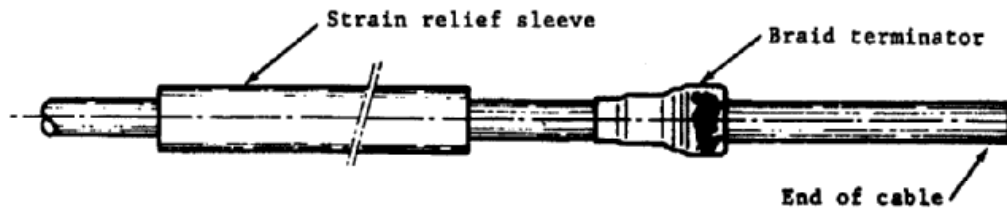

Figure 5-2
1. Slide the strain relief sleeve and braid terminator over the cable, and push them back out of the way (Figure 5-2).
1. Make sure that the required strain relief sleeves and braid terminators are slid back over the prepared cable (See Figure 5-2).